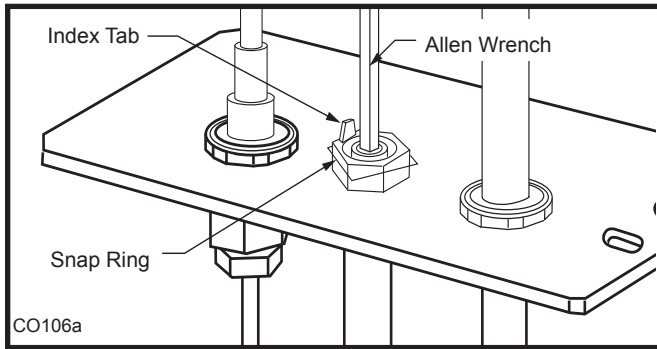

Fig. 55 Remove pilot orifice.
- Remove pilot orifice with allen wrench. (Fig. 55)